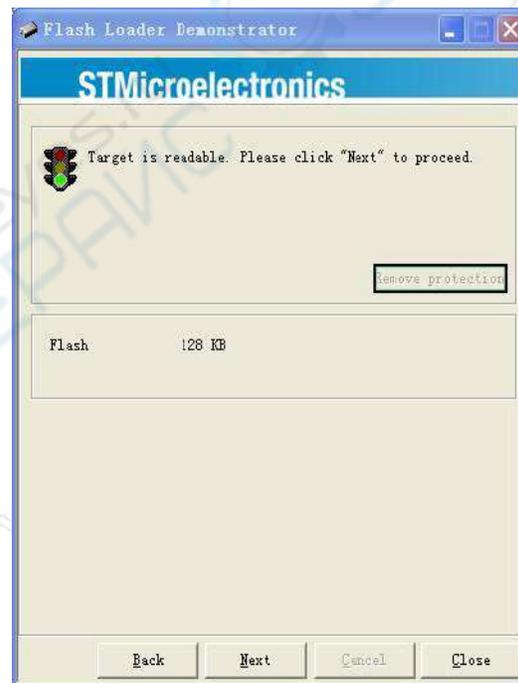

Fig. 6
- 4) If there is no error you should see Fig. 6. This is a temporary state showing that the PC has successfully detected bootloader and whether the chip flash memory is readable. If you have problem to reach this state you can try resetting the MCU by switching off the DSO and switching on again. If that still doesn't work check connections and BOOT0/BOOT1. [**Hint: It is a good try to swap TXD and RXD since these denotation are often confusing.**] Otherwise, click on Next to proceed to the next step as shown in Fig. 7.